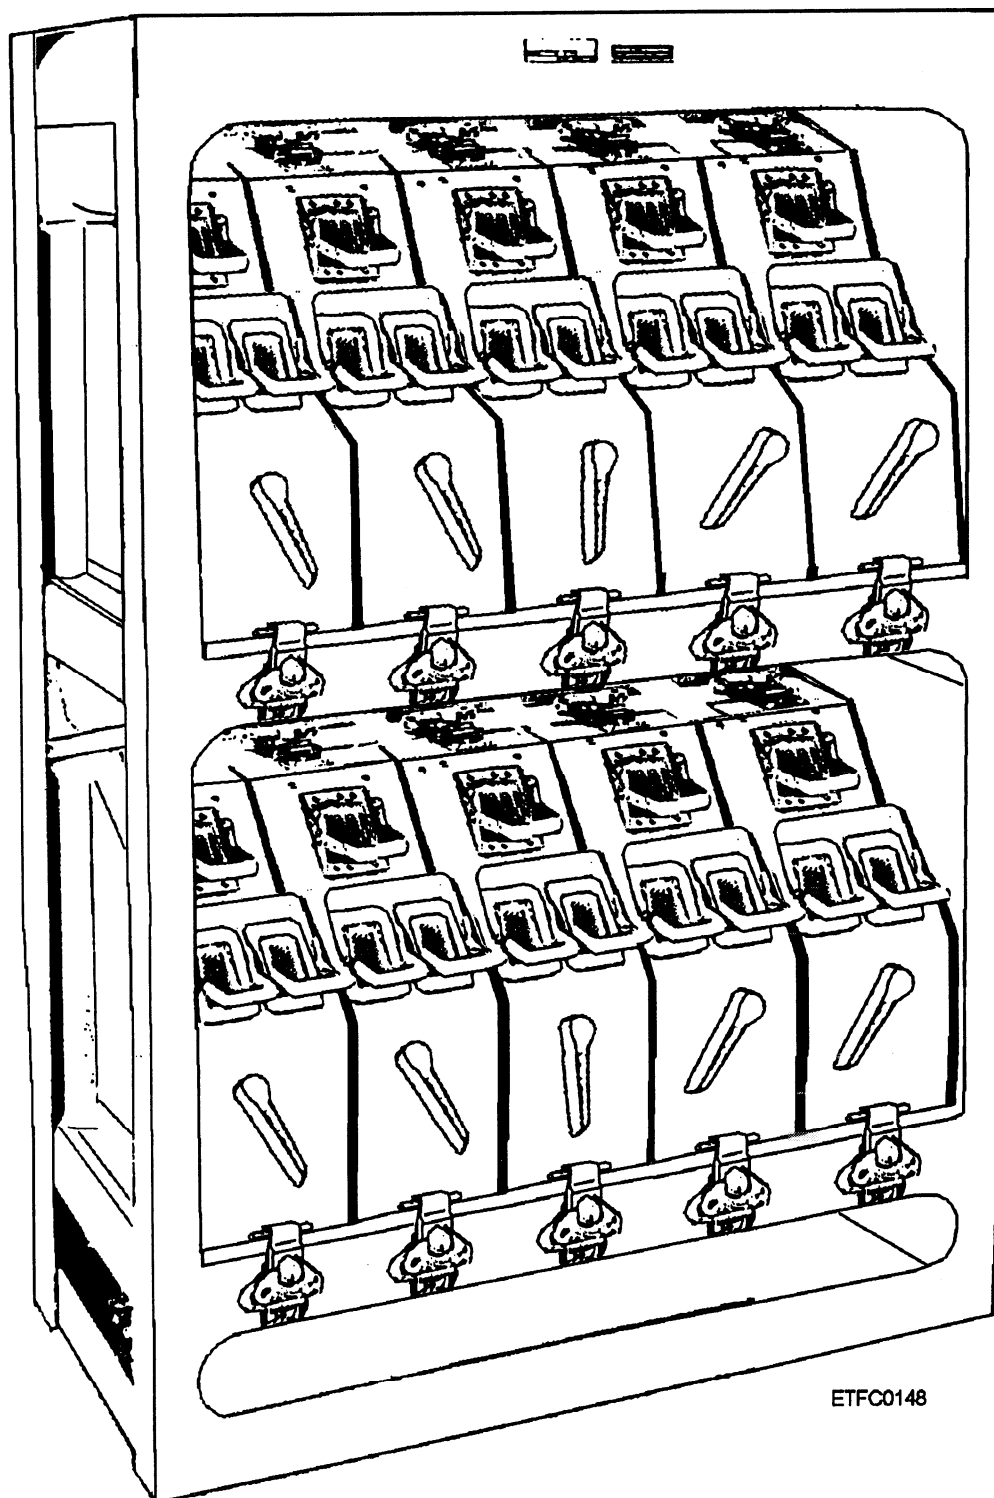
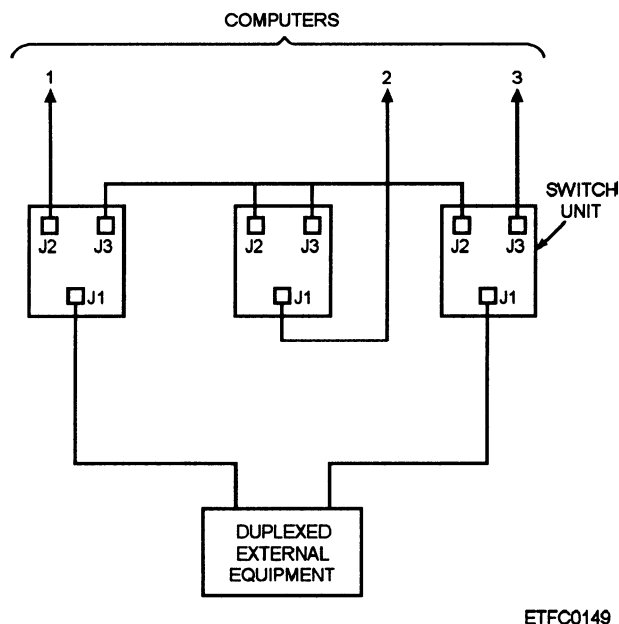

Figure 13-14.—Manual switchboard.
Figure 13-15.—Sample manual switching configuration.
**Manual switchboards** are made up of variable configurations of three-position or five-position switches (figure 13-14). Each switch must be manually positioned for the interconnection required by the current system configuration. At least two manual switches, one for input and one for output, are required for each I/O device or computer channel to allow for the complete range of system configuration requirements (figure 13-15). Manual switchboards are for the most part being replaced by remotely controlled switchboards.